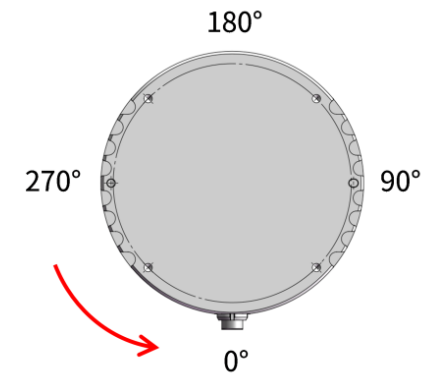
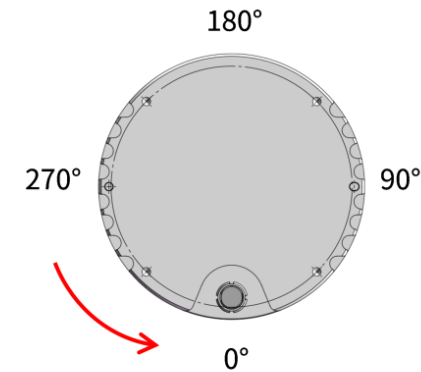

Figure 3. Lidar azimuthal position (bottom view)
Figure 5. Lidar azimuthal position (bottom view)
- Lidar azimuthal position is defined in Figure 3 and Figure 5. Y-axis corresponds to 0°.